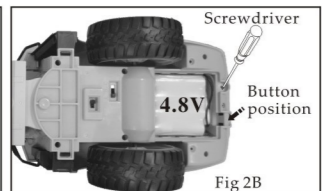

Fig 2B
2. Please screw out the cover at the back of car by screwdriver, open the cover as the arrow showed, insert 1pcs of 4.8 V AA battery, then screw the cover (Fig 2B).